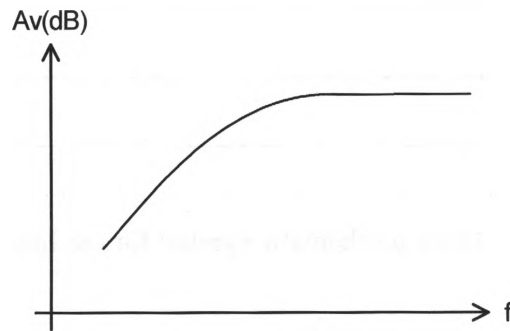

Figure 1
1. What type of filter has the frequency response shown in Figure 1 below?